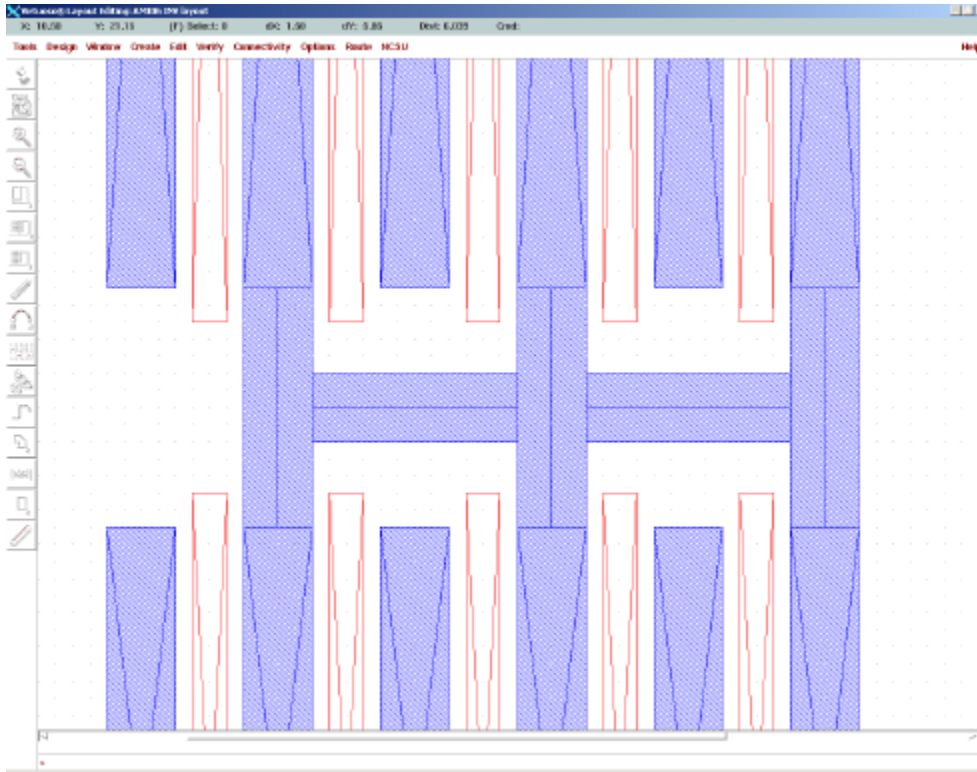

Figure 81: Connecting Drains to form the Output.
4. Repeat the same process to connect the Drains for the out put (Figure 81).